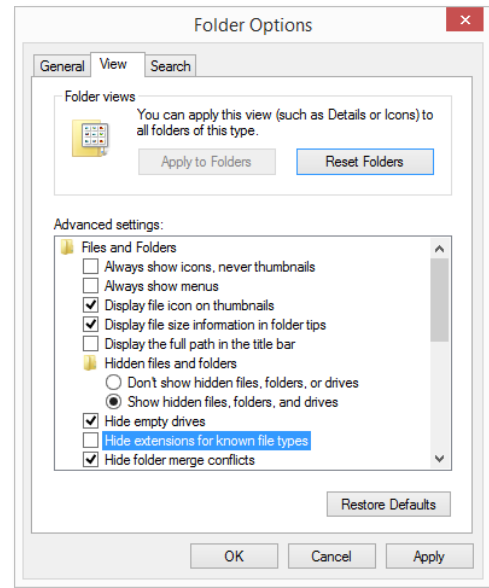
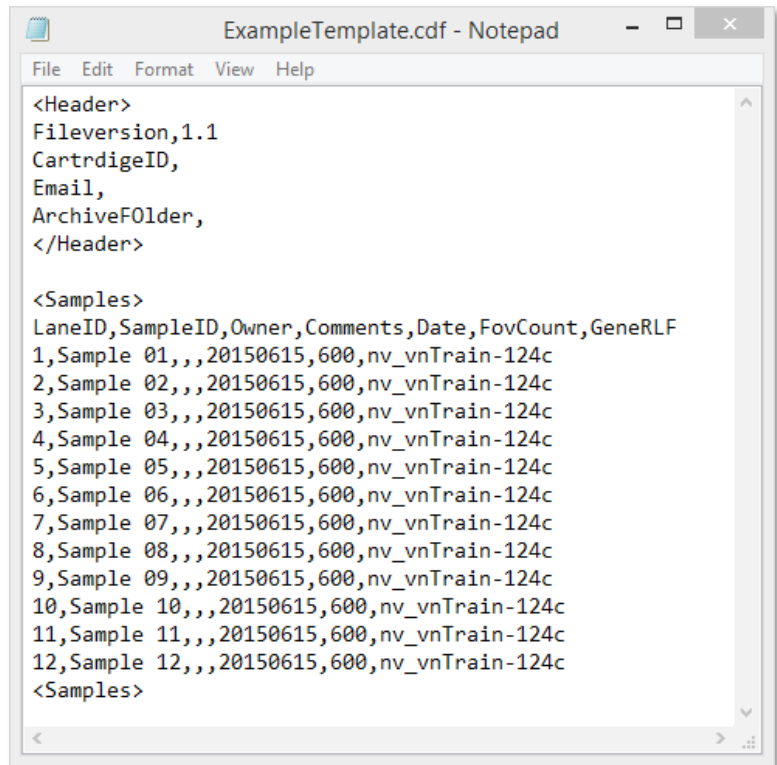

Figure 59: The 'Folder Options' window.
Figure 62: A sample CDF viewed in Notepad.
3. The 'Folder Options' window will appear (**Figure 59**). Select the **View** tab and uncheck the option **Hide extensions for known file types**.
1. Open the CDF in Notepad (or Textedit). Note that all the information present in the Excel spreadsheet shown in **Figure 59** is also visible in Notepad (**Figure 62**).